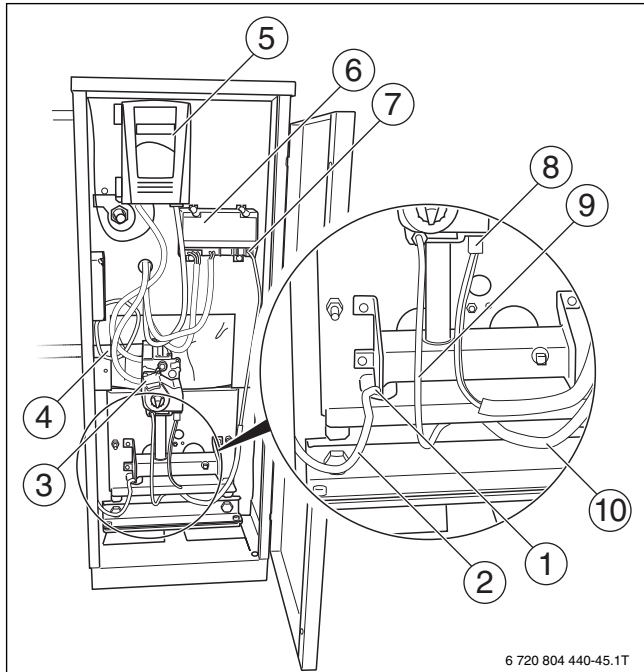

Fig. 34 Front view GC 144 II
- ▶ Remove igniter cable from ignition module (→ figure 34, page 22).
- ▶ Disconnect cable connector from bottom of gas valve (→ figure 34, page 22).
- ▶ Label cables to the flame roll-out switch, then remove cable (→ figure 34, page 22).